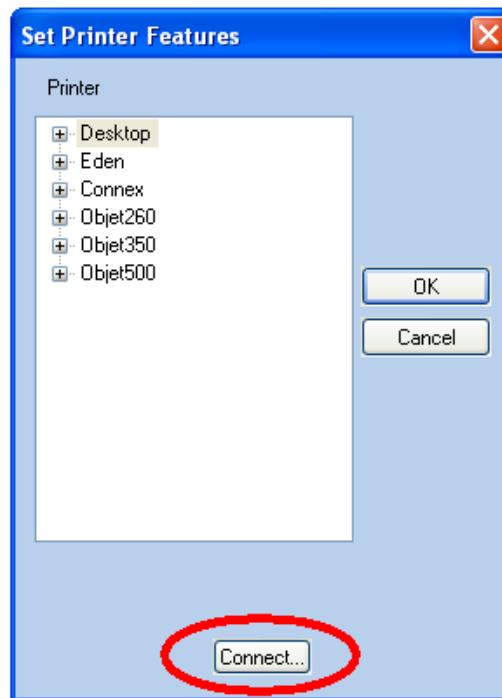

Figure 5-85 Connecting to a printer (A)
2. In the *Set Printer* dialog box, click Connect (see Figure 5-85 on page 5-66).